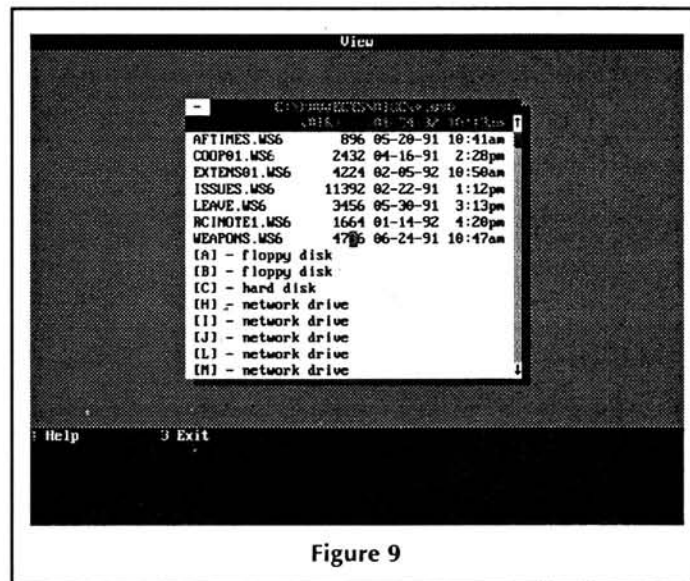

Figure 9
6. VIEW (Figure 9) is the stand alone program which PCSHELL uses to look at any format file (see discussion under PCSHELL).